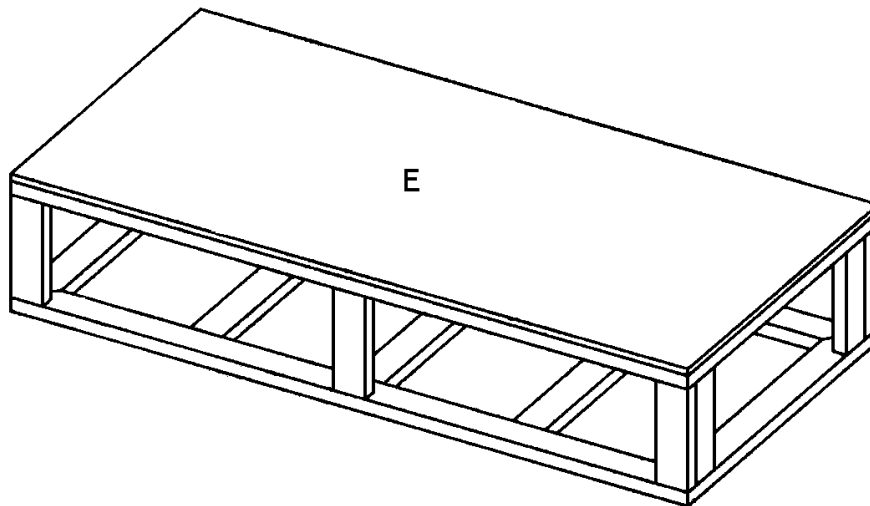

Figure 5
14. Turn the entire assembly upside down, replace the first rectangular frame on the top, measure to check for proper placement, and again screw through the rectangular frame into the frame connectors (D).
15. Cut one platform (E) from 3/4-inch plywood, measuring 35 x 74 inches.
16. Place the platform (E) over the assembly, as shown in *Figure 5*. Apply glue and screw through the platform (D) into the long frame (A), short frame (B), and each of the three frame supports (E). Use 2-inch screws spaced about every five inches.